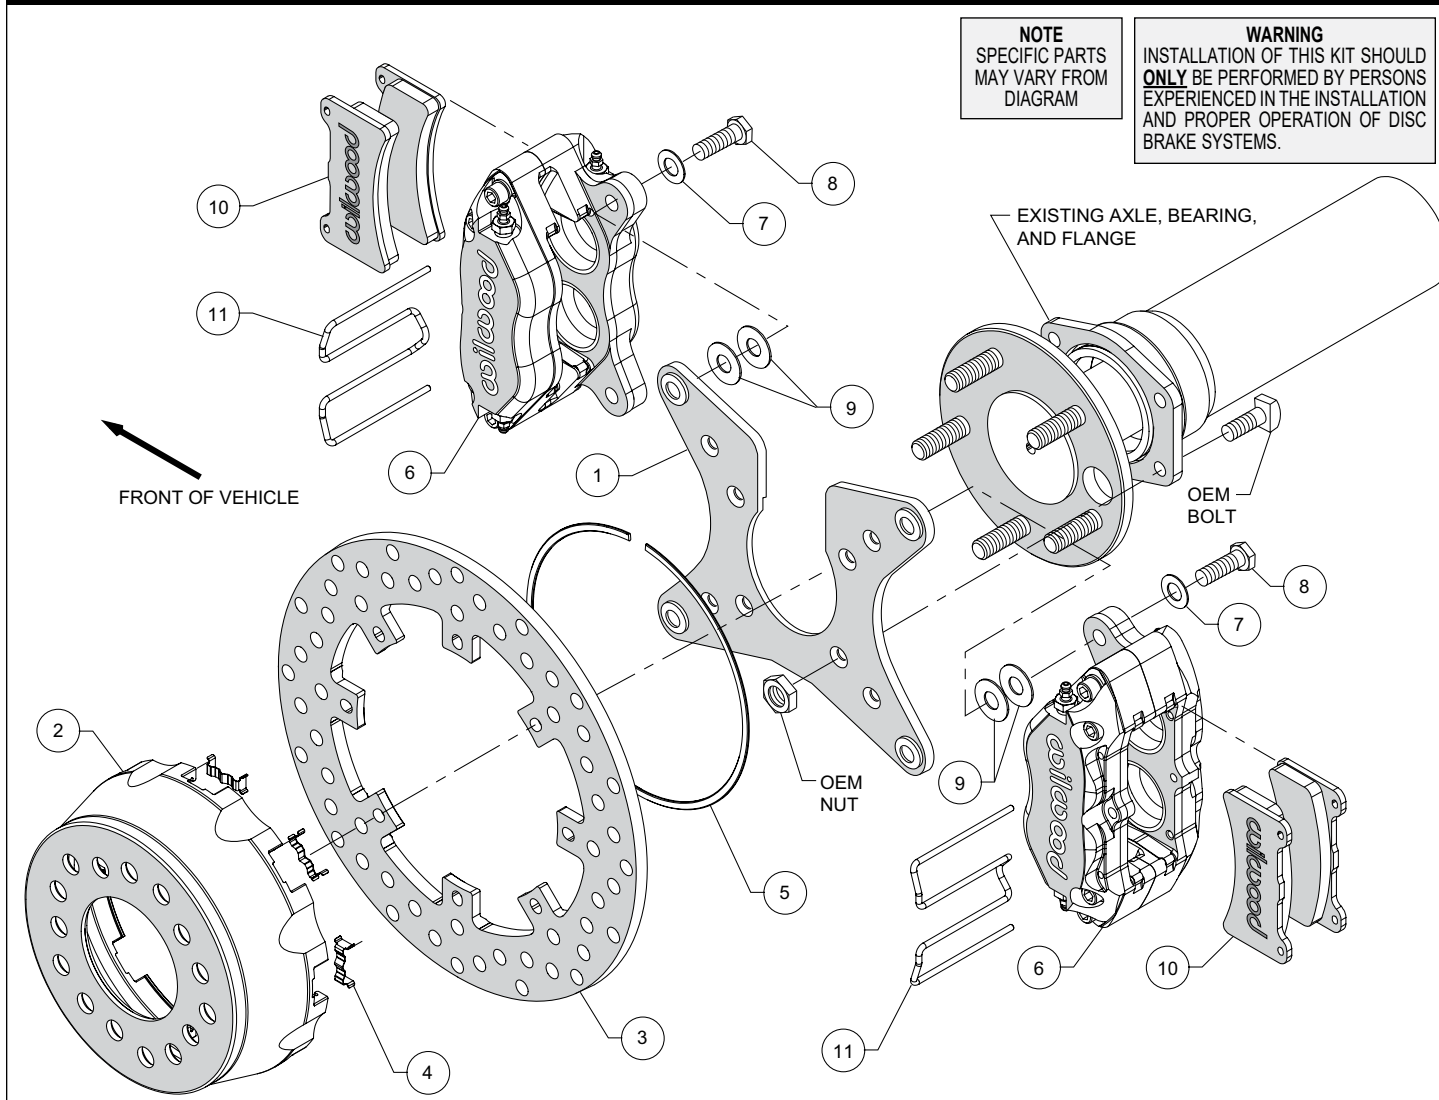

Figure 1. Typical Installation Configuration
**Assembly Instructions** (numbers in parenthesis refer to the parts list and Figure 1 on the preceding pages): **CAUTION:** All mounting bolts must fully engage clinch nuts. Be sure to check that all bolts are either flush or protruding through flanged side of clinch nut after shimming, Figure 5.
- Install the caliper mounting bracket (1), with the slot for the axle pointing upward, to the housing flange using the OEM bolts and nuts, as shown in Figure 1 and Photo 1. Ensure that the caliper mounting ears on the bracket are oriented fore and aft on the car, with the heads of the clinch nuts facing outboard, Photo 1. Apply red *Loctite*® 271 to the OEM bolt threads and torque to OEM specifications.
- Insert the dynamic mount wear plates (4) into the slots in the hat (2) making sure the tabs snap in place, Photo 2. Orient the rotor (3) as shown in Figure 1 and Photo 3, with the flush mount tab side facing the hat. Attach the rotor to the hat using snap ring (5) by pushing down on the rotor and installing the ring into the groove in the hat, as shown in Photo 4. Ensure that the ring is fully engaged in the groove.
- Align the correct hole pattern in the hat (2) with the axle stud pattern and slide the hat/rotor assembly onto the axle hub. **NOTE:** The hat must fit flush against the axle flange or excessive rotor run out may result. Install three lug nuts (finger tight) to keep the hat/rotor in place while continuing with the installation. **NOTE:** The hats included in this brake kit are drilled for .68" diameter wheel studs.
- NOTE:** Please reference the caution statement at the beginning of the assembly instructions. Mount one caliper (6) onto the mounting bracket (1) using bolts (8) and washers (7), as shown in Figure 1. Initially place two .035" thick shims (9) on each bolt between the caliper and the bracket, Photo 5. Temporarily tighten the mounting bolts and view the rotor (3) through the top opening of caliper. The rotor should be centered in the caliper, Photo 6. If not, adjust the caliper by adding or subtracting shims between the bracket and the caliper. Always use the same amount of shims on each of the two mounting bolts. **NOTE:** The end of each bolt must be flush with or slightly protruding from the head of the clinch nut. If necessary, place spare shims between washer and caliper mounting ear to achieve the proper clinch nut engagement, as shown in Figure 5.